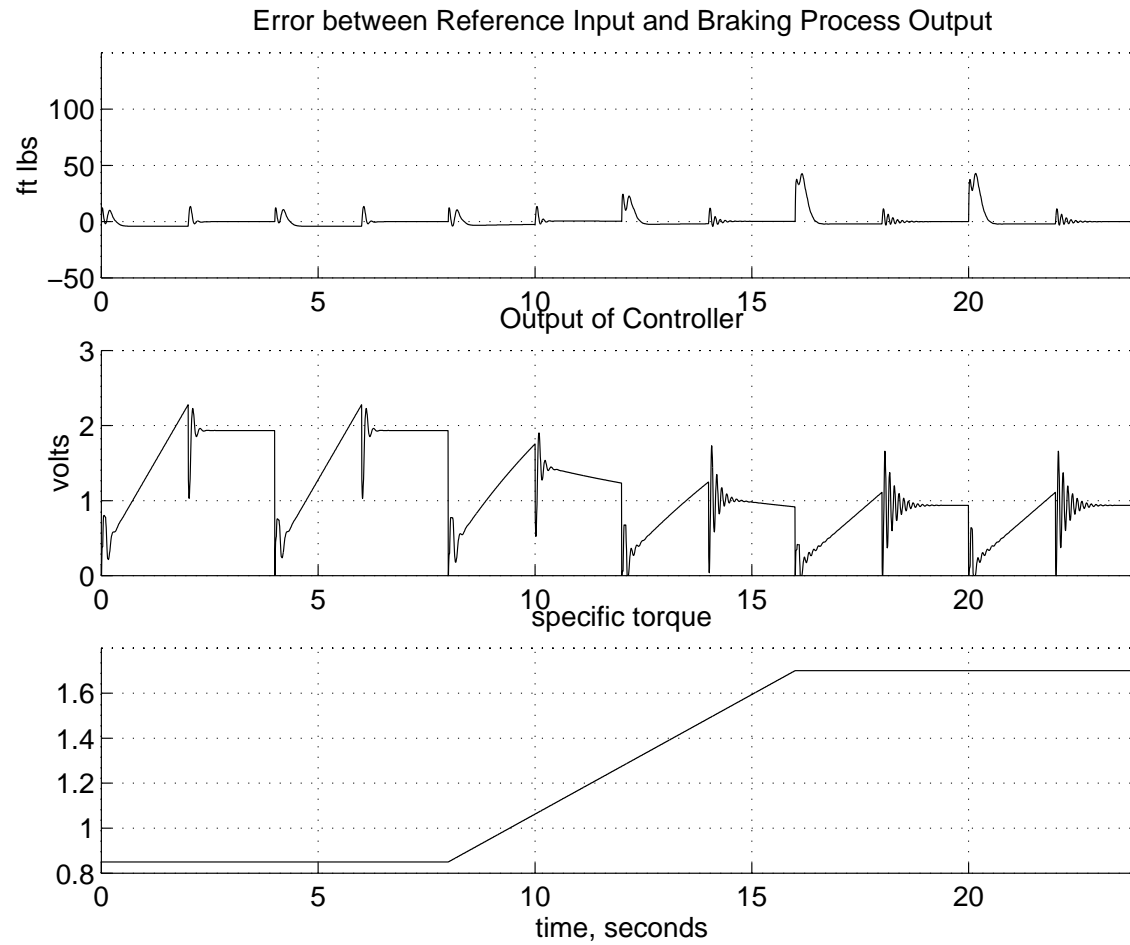

Figure 26: Results using GMRAC.
- Figure 26 shows the results of the braking simulation using the GMRAC.